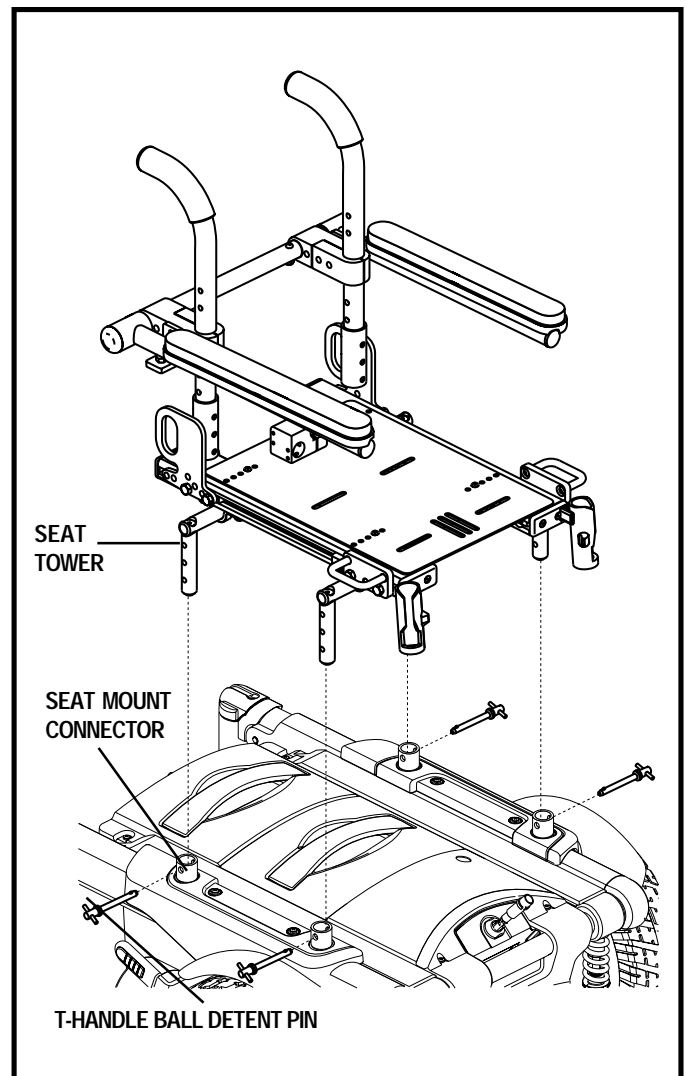

Figure 14. Seat Height Adjustment
1. Remove the T-handle ball detent pins that secure the seat base to the power base. See figure 14.
3. Align the locating hole in the seat tower with the one in the seat mount connector, and reinsert the T-handle ball detent pin for each tower. See figure 14.